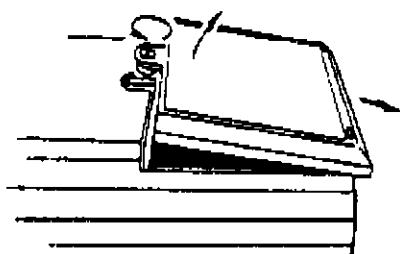

図 2 Fig.2
(1) Batteries
- ① Remove the battery cover by loosening the screw on this cover with a coin or similar implement. (see Fig.2)
- ② The battery compartment holds eight type AA batteries. Replace these all at the same time, observing correct battery polarity.